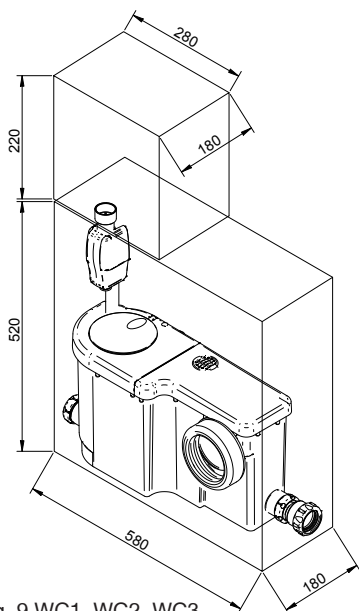

Fig. 9 WC1, WC2, WC3
- 1.11 The unit must be connected directly to the outlet spigot of the WC pan. Allow a minimum height of 220 mm above the unit, for maintenance and servicing (see Fig 9).